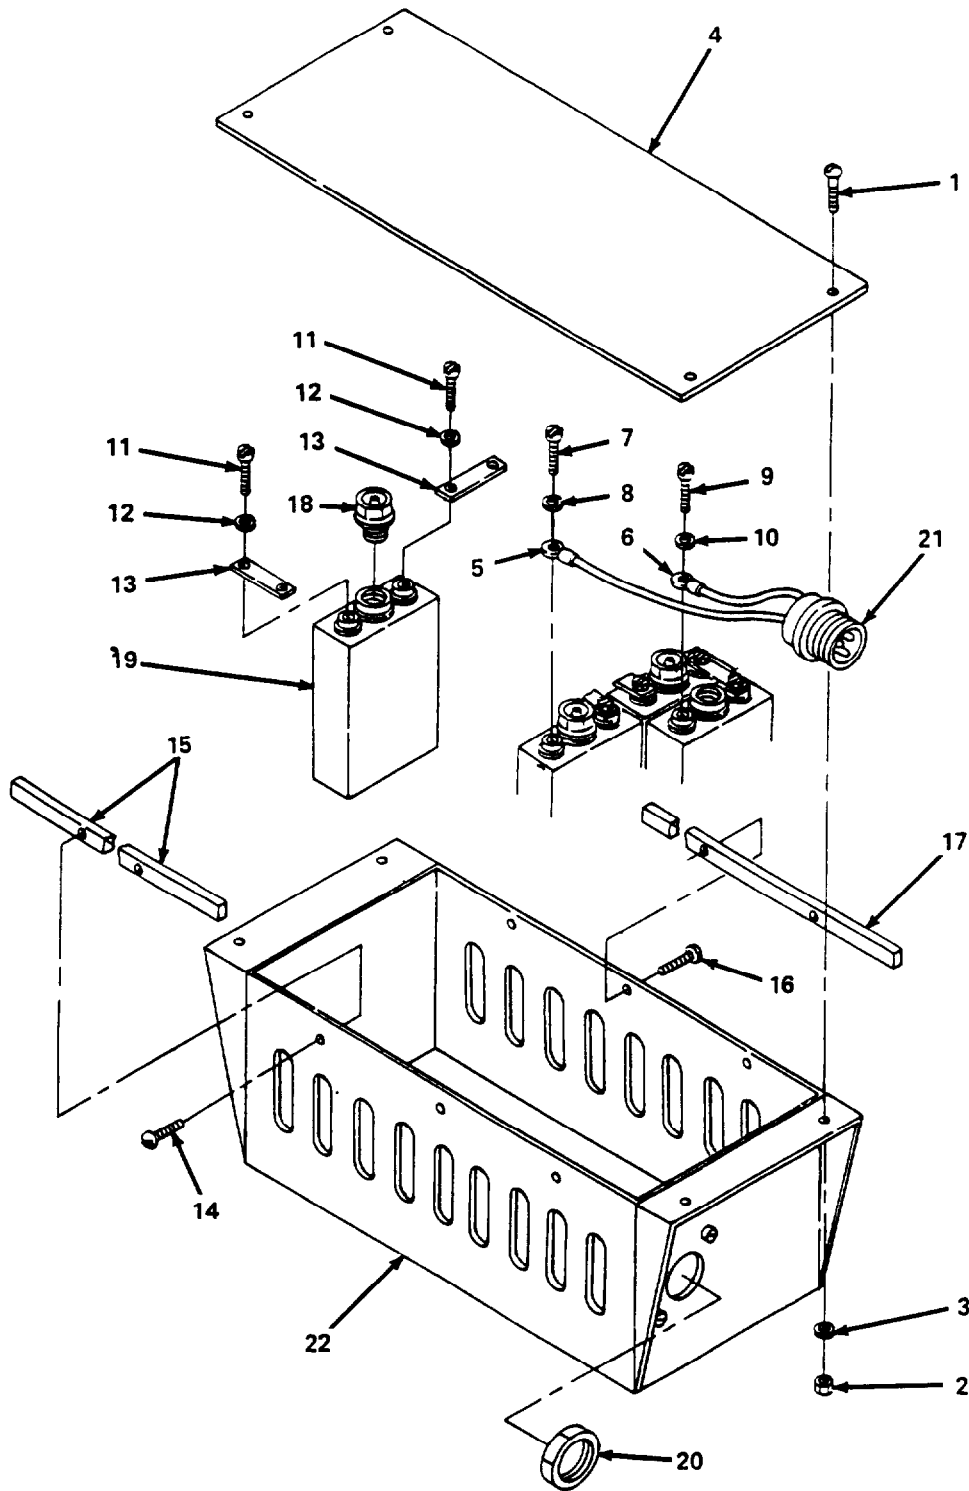

Figure 3-27. Battery BB-678A/A Disassembly.
a. Disassembly/Reassembly (fig. 3-27).
- (1) Remove four screws (1), nuts (2) and washers (3) and remove cover (4).
- (2) Discharge battery (para 3-10).
- (1) Discharge battery (para 3-10).
- (2) To remove any of the above Items, refer to the exploded view (fig. 3-27) and the appropriate sections paragraph 3-25a.
- (3) Upon completion of repair, perform the test procedures contained in paragraph 3-25c, below.